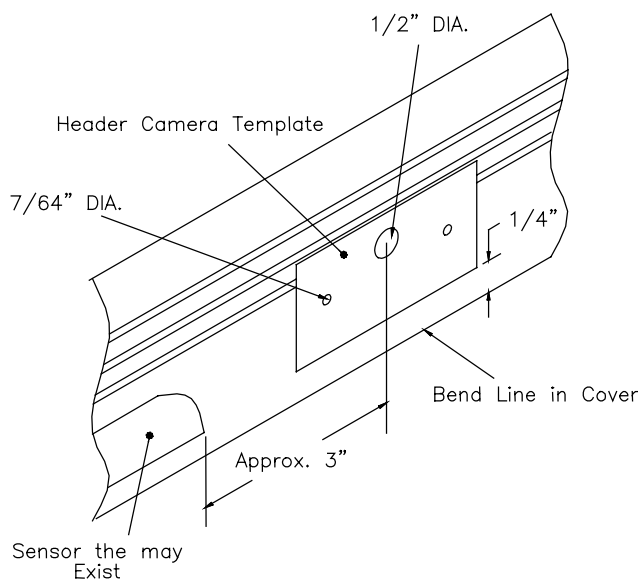

FIG. 1
2. Remove the header template from the packaging and apply to the surface. FIG. 1